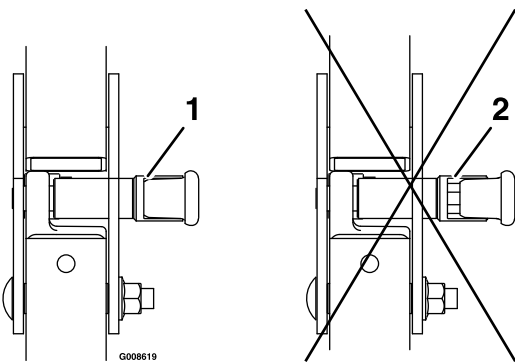

Figure 14
5. Make sure the knobs are fully engaged with the roll bar in the raised position. The upper hoop of the roll bar may need to be pushed forward or pulled rearward to get both knobs fully engaged (see Figure 14).